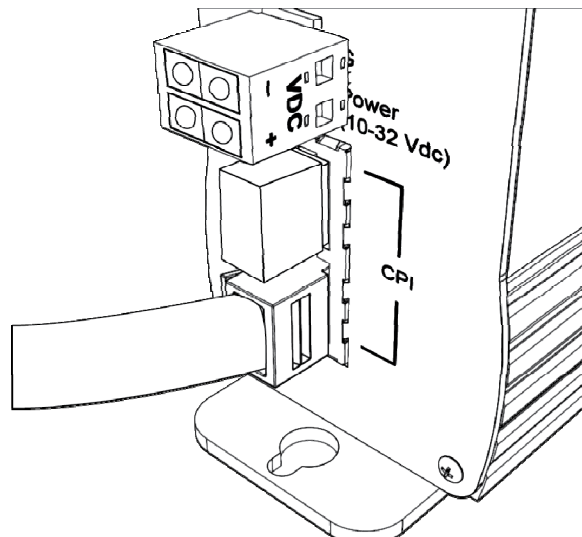

FIGURE 6-11. Install CPI bus terminator
- c. As shown in FIGURE 6-11, place a CPI terminator in the remaining open CPI port of the CDM-VW300 unless more CDM-VW300 devices will be daisy-chained.